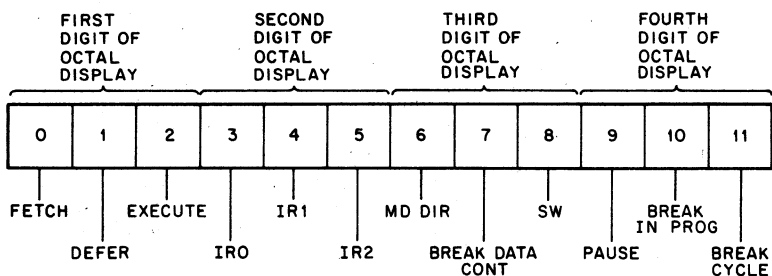

Figure 6-4 Major States Register
STATE (5)	cator to the left of the key pad will also light. When key pad switch STATE and then DISP are depressed, the condition of the major states, 3 bits of the instruction register (IRO-2), and 6 major Omnibus signals are displayed in the 4 character octal readout (Figure 6-4). The STATE indicator to the left of the key pad will also light. The octal readout must be decoded to determine if the individual bits are in a set or cleared condition (a logical one or a logical zero).